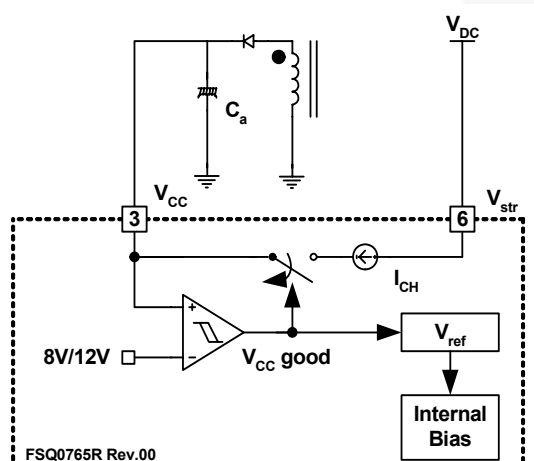

Figure 22. Startup Circuit
**1. Startup:** At startup, an internal high-voltage current source supplies the internal bias and charges the external capacitor ( $C_a$ ) connected to the  $V_{CC}$  pin, as illustrated in Figure 22. When  $V_{CC}$  reaches 12V, the FPS™ begins switching and the internal high-voltage current source is disabled. The FPS continues its normal switching operation and the power is supplied from the auxiliary transformer winding unless  $V_{CC}$  goes below the stop voltage of 8V.